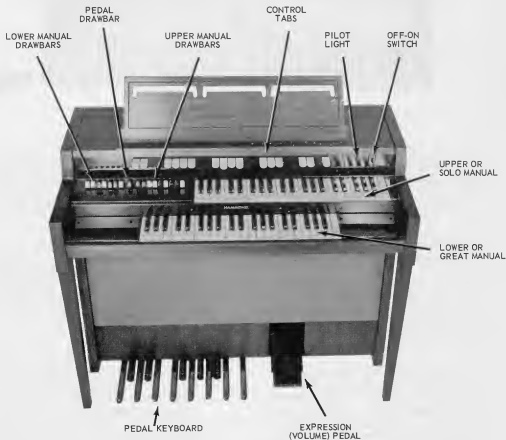

Figure 1-1. L-100 Console, Front View
- 1-1. **GENERAL** – This section contains a description of the operating principles of L-100 Series organs. Figures 1-1 and 1-2 depict the locations of the various subassemblies. Figure 1-3 is a block diagram.
1-9. EXPRESSION PEDAL. — The expression pedal, sometimes called "swell" pedal (Figure 1-1) is operated by the player's right foot and varies the volume of both manuals and pedals together. When the pedal is tilted back (closed) by pushing on the player's heel the music is softest, and when pushed forward (opened) by the player's toe the music is loudest.